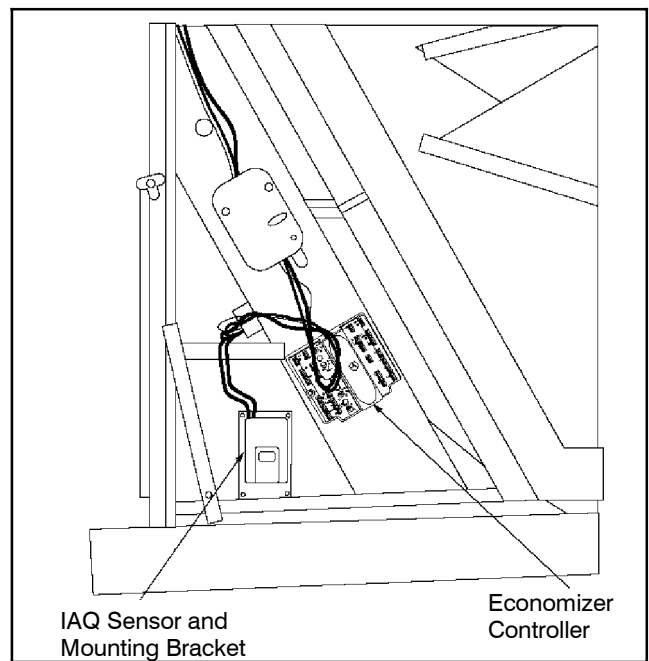

Fig. 5 - CO₂ Sensor Location - PGH/PAH155-180, PGS/PAS180-300, PHH150-180
6. Route wiring harness from the economizer controller to the sensor mounting location in the return air duct using metal clips and wire ties to organize and protect the harness. See Fig. 5.
7. Install the mounting bracket and sensor mounting plate in the unit return air section. See Fig. 5.